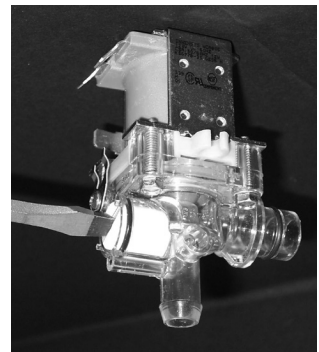

Figure 1. Adjustment
1. Loosen the screw on the metal guard. Rotate away from the adjustment screw (figure 1).